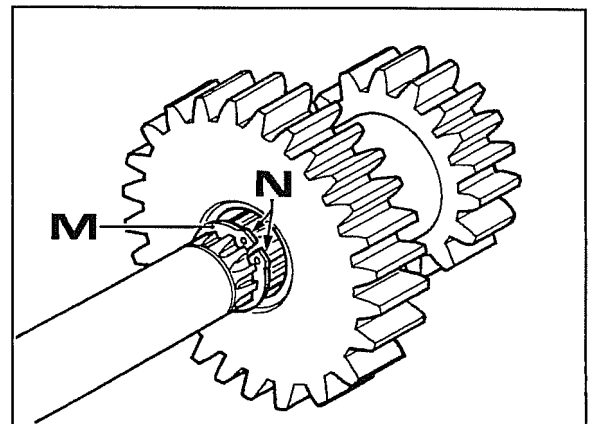

Fig. 6
- Snap ring **M** Fig. 6 will be unavoidably damaged when removing the PTO shaft and should be replaced. Grind off the projections **N** Fig. 6 up to the contact holes. This grinding is necessary so that the shaft can be inserted onto the double gear shaft without damaging the new snap ring and the new bushings.